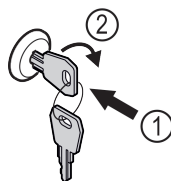

Fig. 160
- Insert the key. Fig. 160 (1)
- Turn the key clockwise by 90°. Fig. 160 (2)